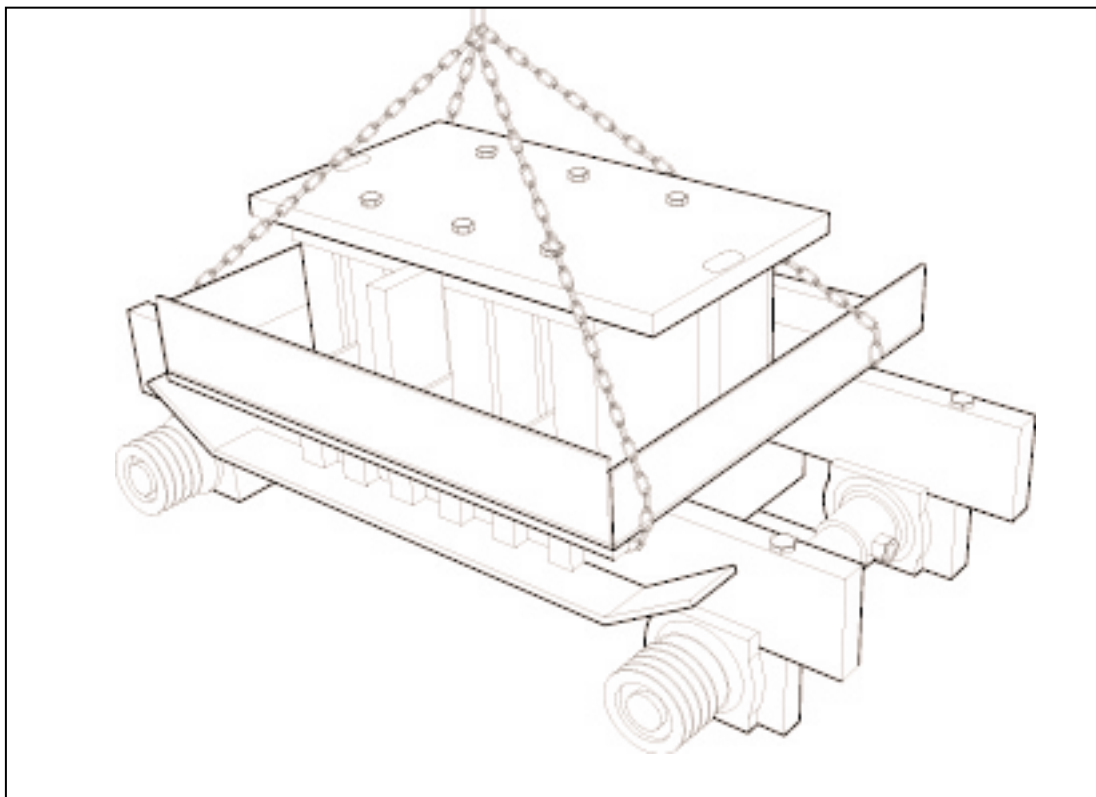

Figure 5.12 MOLD IS CHAINED, READY TO BE PLACED IN MACHINE.
5.4.10 Chain mold with stripper head as shown in figure 5.12 below. We recommend the use of an overhead crane. The weight of a complete mold is approximately between 2000 lbs [910 Kg] and 2500 lbs [1135 Kg].